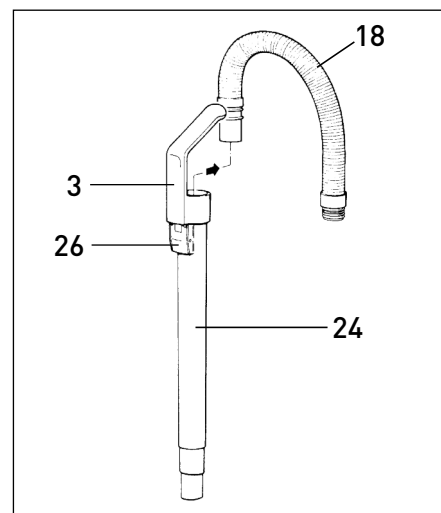

Figure 15
## Clogs in the Attachment Tube (Active Wand) - Figure 15
Remove attachment hose (18) from vacuum cleaner (see figure 15) and remove front cover (21). Clean out connecting tube (29) and/or entrance to bag (45).